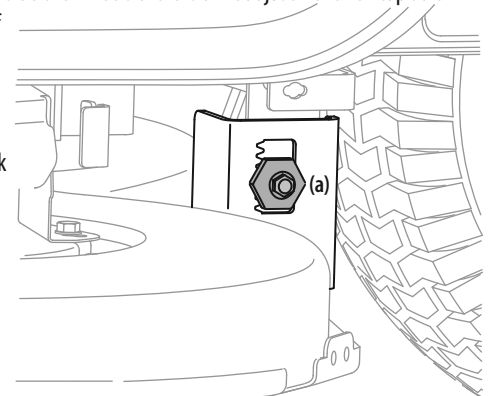

Figure 27
3. Under the rear fenders inside the wheels there is a lift adjustment hex cap screw and gear for each side of the deck. See Figure 27.